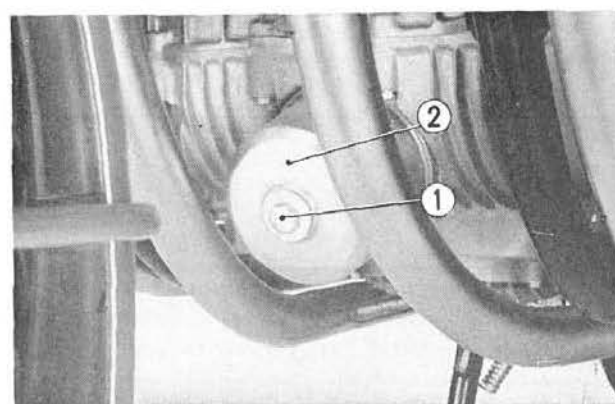

Fig. 19-4 ① Oil filter retaining bolt
(1) Remove oil filter cover by unscrewing the oil filter retaining bolt. (Fig. 19-4)